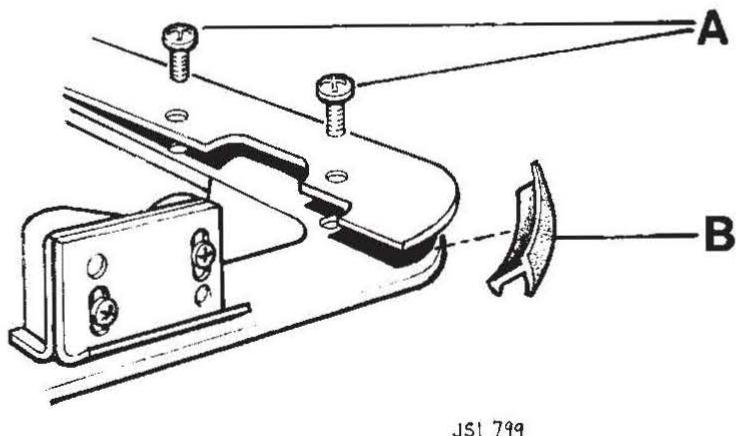

FIG 3
5. Release and remove two screws at each rear corner of the seal clamping plate (A Fig 3).
6. Apply adhesive to the seal inserts JLM 1500 (B Fig 3) and position under the clamping plate. Note position of seal section illustrated.